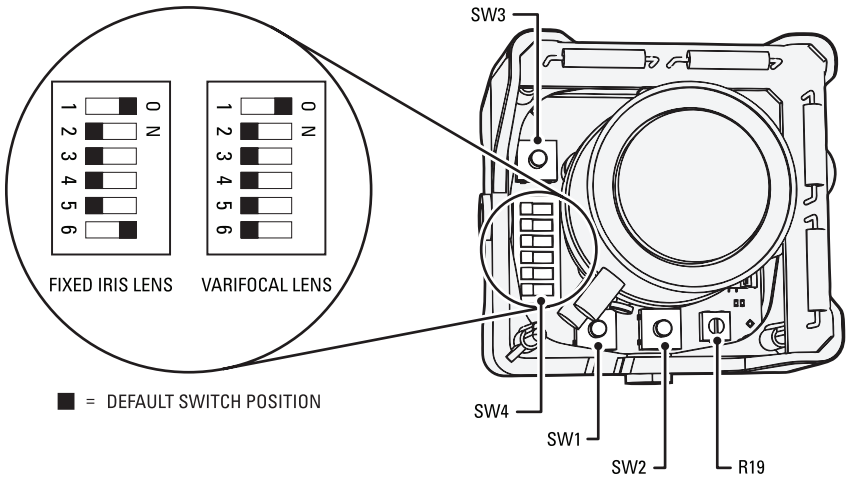

Figure 10. Adjusting the IS150-DN/CH Series Camclosure
Refer to Figure 10 to adjust the IS150-DN or IS150-CH model.
To adjust the auto iris DC-drive level (refer to Figure 10 on page 17):
2. Select the camera to synchronize. Use buttons SW1 and SW2 to synchronize the camera to the reference camera (refer to Figure 10 on page 17). SW1 increases vertical phase; SW2 decreases vertical phase.
To manually correct defective pixels (refer to Figure 10 on page 17):